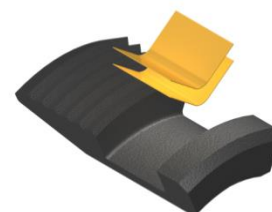

Fig. 4
**NOTE7:** Install two (2ea) springs per slip (Fig. 4).